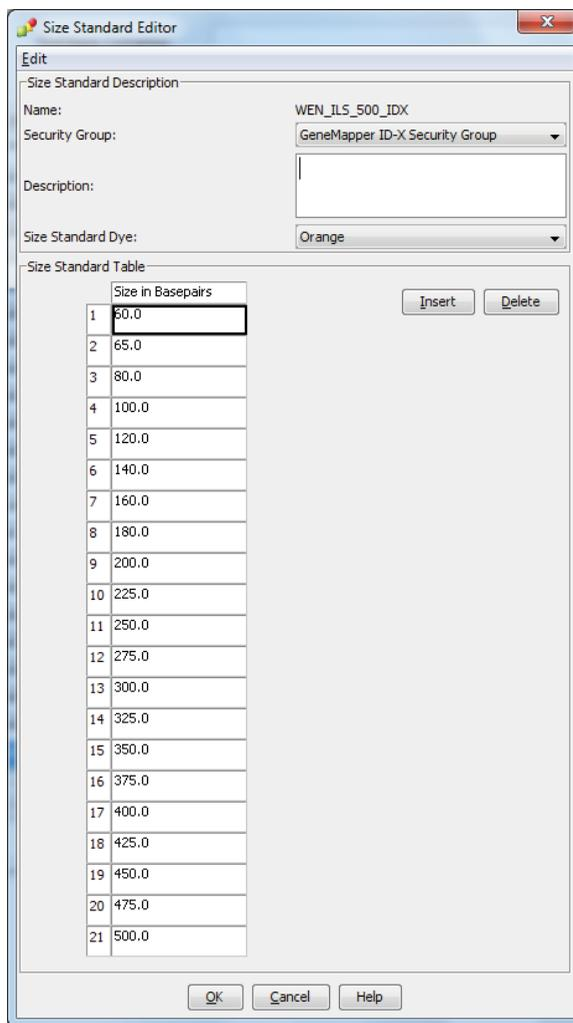

Figure 15. The GeneMapper® ID-X Size Standard Editor.
4. In the Size Standard Editor window (Figure 15), select “GeneMapper ID-X Security Group” as the Security Group. This allows access for all users of the software. Other security groups may be used.